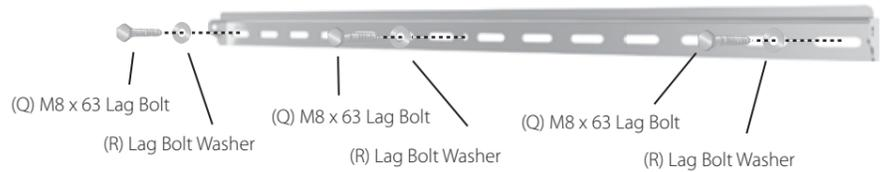

Fig. 2 - Attach the wall plate to the wall (concrete).
2. With the help of another person, mark off six (6) locations for fixing the mount to the wall.
4. Insert one Concrete Anchor (P) into each hole. A hammer can be used to lightly tap the anchors into place if necessary.
5. With the help of another person, replace the wall plate and fix it to the wall using the Lag Bolts (Q) and Lag Bolt Washers (R) provided (Fig. 2).